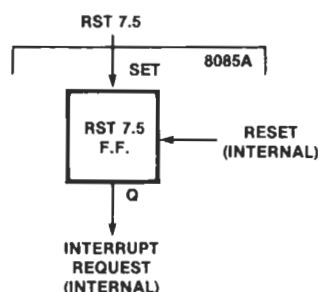

FIGURE 2-6A RST 7.5 FLIP FLOP
- The 8085A responds to the interrupt, and sends an internal reset signal to the RST 7.5 flip-flop. (See Figure 2-6A.)